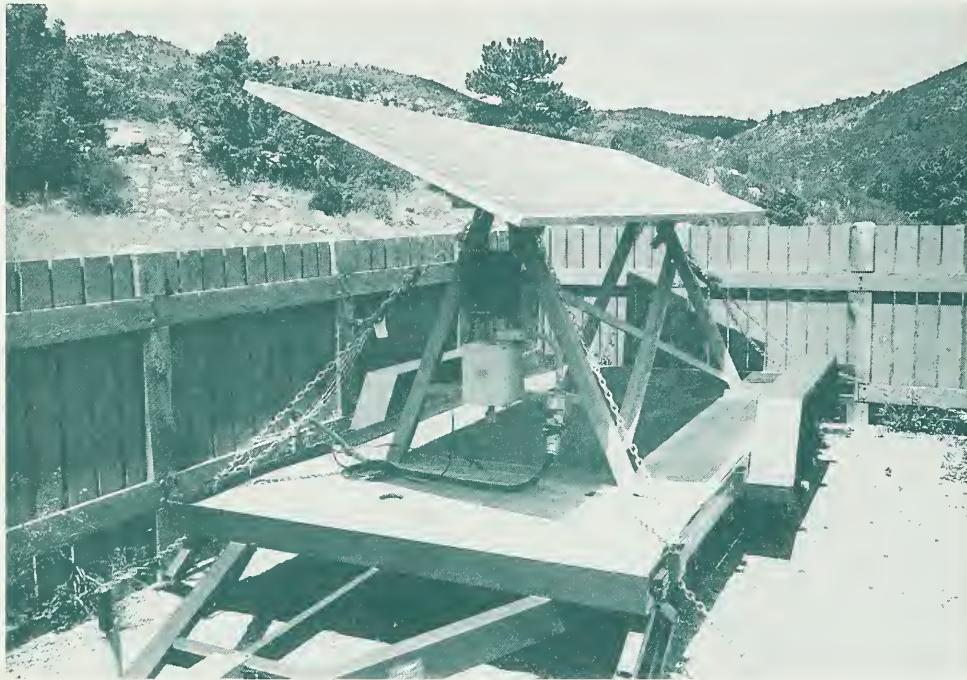

Figure 9—Photovoltaic systems can be mounted on trailers for portability or to allow safe indoor storage during winter.
- They are portable and can be easily removed during the off-season, reducing the potential for damage due to extreme weather or vandalism (Figure 9).